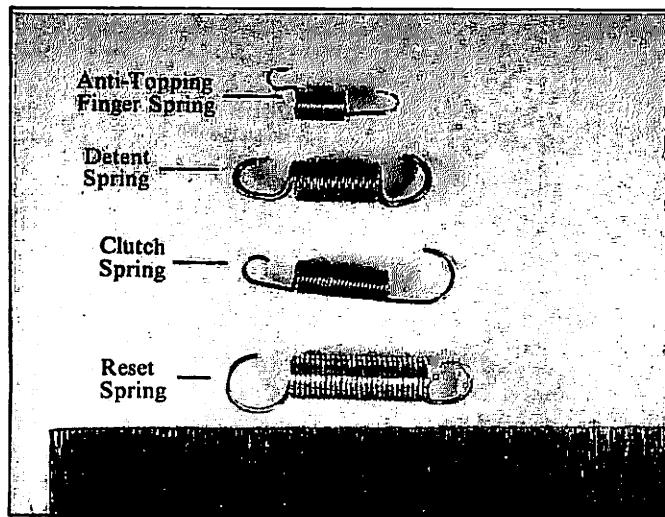

Figure 23. Spring Identification.
- a. See Figure 23 for identification of springs.